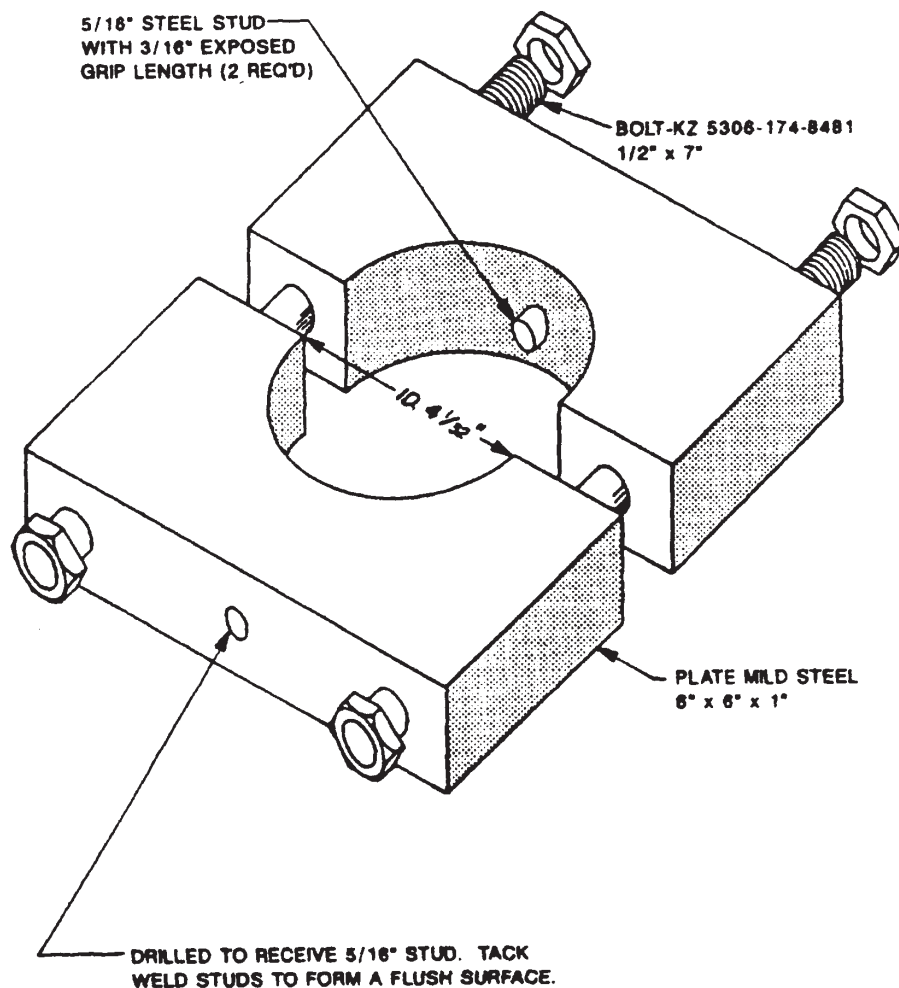

Figure 3-23.—Fuel hose repair jig.
2. Clamp spanner type coupling into jig similar to that shown in figure 3-23. (Jig not required for hex-type coupling).